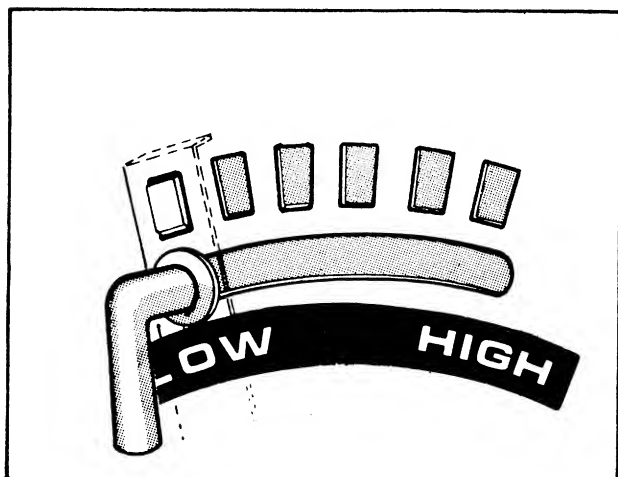

FIG. 11 - LIFT LEVER ADJUSTMENT
**ROUGH TERRAIN MOWING** - With the lift and disengagement lever in **DISENGAGE** position, unscrew the height adjustment handle until it can be moved to the desired mowing height (See Fig. 11) and tighten it. Set the individual wheel adjusters so that the wheels clear the ground by  $\frac{1}{4}$  inch to prevent scalping.